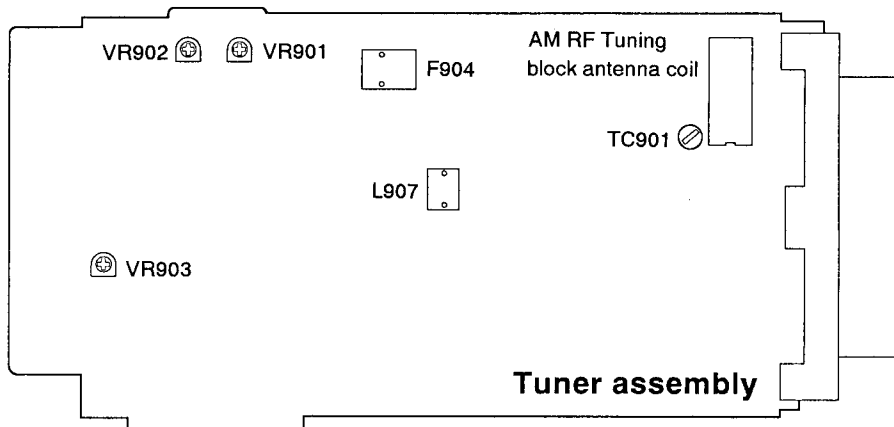

Fig. 7-3. Adjustment Points and Test Points
- Refer to Fig 7-3. for adjustment test points and controls.
Note: To make frequency response of the phone equalizer flat, perform the following adjustment items 2 to 4 with connecting B1 to B2 and C1 to C2 in Fig. 7-3 respectively.